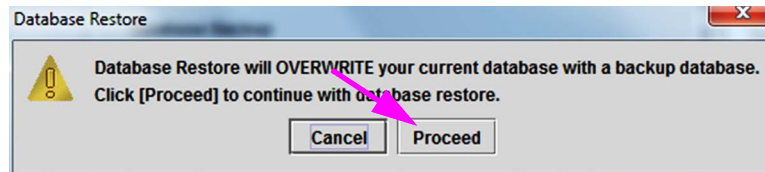

Figure 5-76. Database Restore Confirmation Dialog Box
8. The Database Restore confirmation dialog box appears. See Figure 5-76.